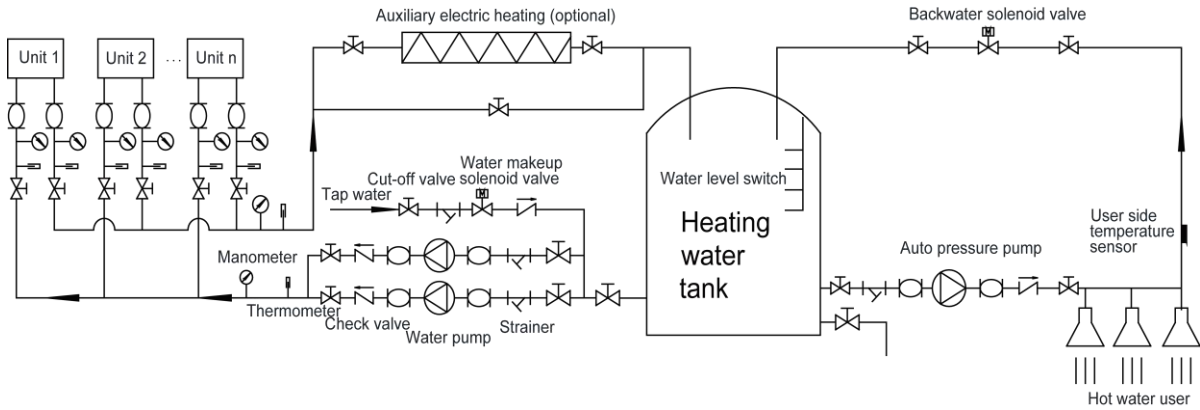

Fig2 Timer water supply installation diagram for modular series
5) As for the heat supply system of modular system with timer function, if the water consumption volume is not big and not frequently, it's no need to set thermal storage water tank in the project (fig 2); as for the non-timer heat supply system, if the water consumption volume is big and frequently, it's required to set heating water tank and thermal storage water tank. In general, one heating water tank is ok; while there should be one or more thermal storage water tank according to the actual circumstances for satisfying water consumption requirement at any time. At present, there are two kinds of setting method for heating water tank and thermal storage water tank: one setting method is contour setting,